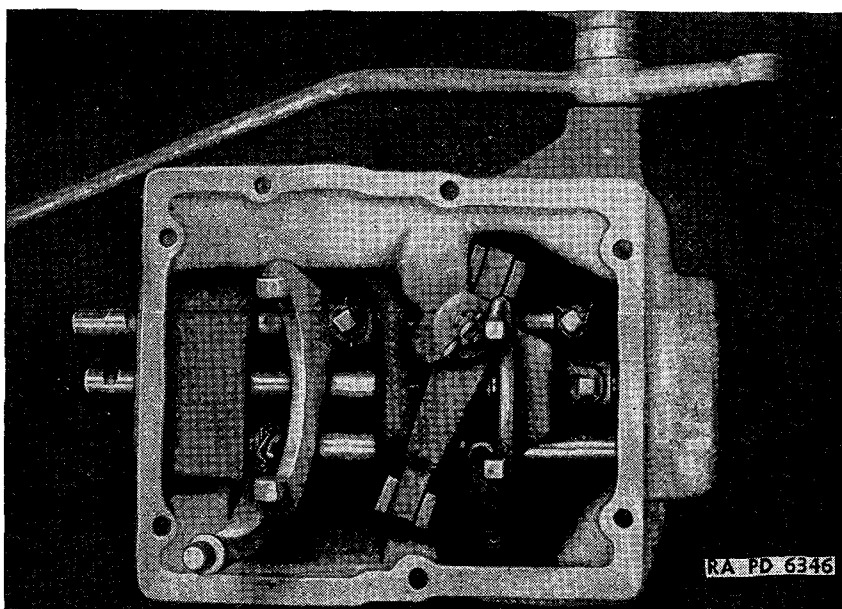

FIGURE 87.—Transmission shifter mechanism, bottom view.
(5) Remove locking wires—cutting pliers. Cut locking wires on shift fork and bracket set screws (fig. 87).
(6) Remove first and second speed shift rod— $\frac{3}{8}$ -inch square socket wrench. Remove set screws (A214776) that hold first and second speed